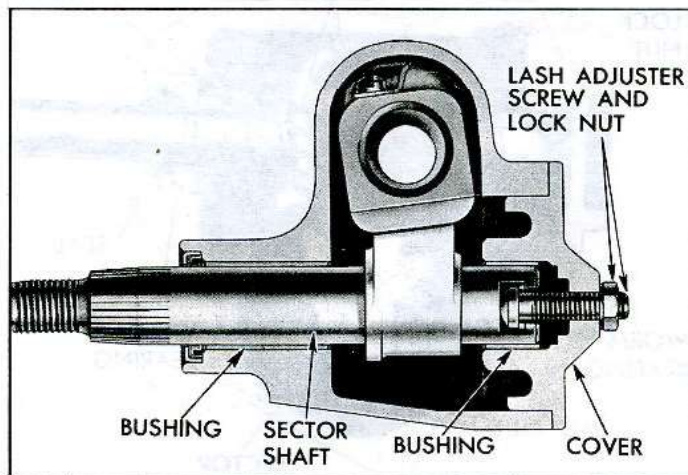
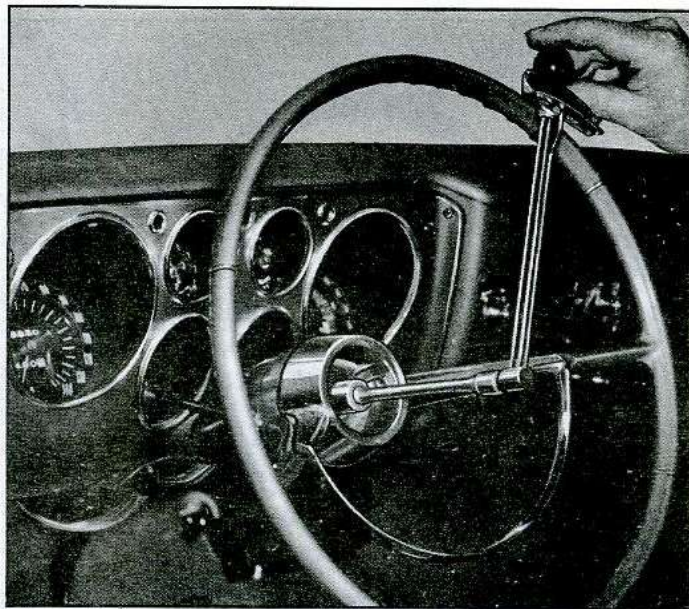

Fig. 4—Sector Gear and Pitman Shaft
Fig. 5—Checking Steering Gear Turning Torque
2. Loosen pitman shaft lash adjuster screw locknut (fig. 4) and turn the lash adjuster screw a few turns counter-clockwise to remove overcenter load (increase lash). Gently turn the wheel in one direction
5. After proper worm adjustment is obtained, and all mounting bolts are securely tightened, adjust the lash adjuster screw (fig. 4). First turn the steering wheel gently from one stop all the way to the other, counting the total number of turns. Then turn the wheel back exactly half way to the center position. The mark on the steering shaft should be at the 12 o'clock position. Turn the lash adjuster screw clockwise to take out all lash in the gear teeth, then tighten the locknut. Check the highest torque needed to turn the wheel through the center position (fig. 5). Torque should be between 8 and 10 in. lbs. in excess